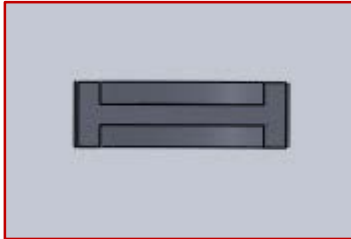

Figure 7.10 – Spacer Pockets
Step 54: Use the **Mirror** command in the **Features** toolbar to create the second pocket in the opposite surface. See Figure 7.10. The mirror plane is the **Top Plane**.